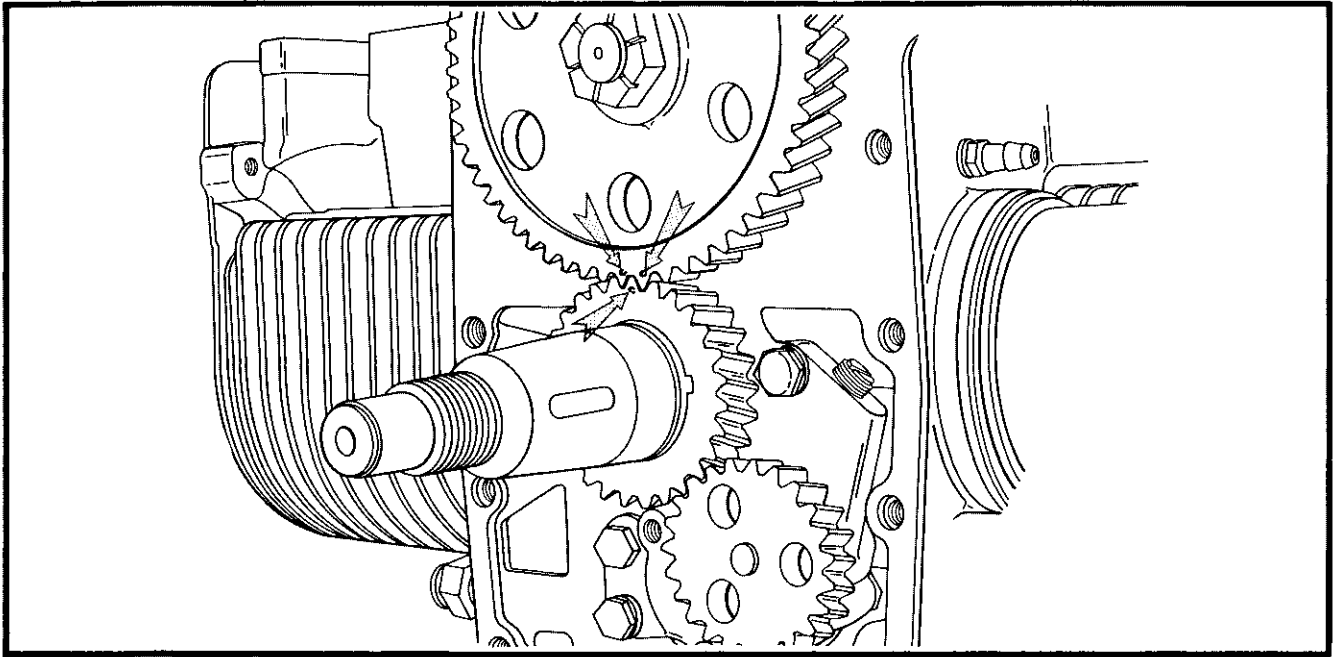

FIGURE 11-3 -- TIMING MARKS ON CRANK AND CAM GEARS (K482, K532)
- C. **Cam Gear:** Turn crank gear until tooth with punch mark is in 12 o'clock position as shown in Figure 11-3. Install woodruff key on camshaft, rotate camshaft so that the two timing marks punched on adjacent teeth of cam gear will straddle single mark on crank gear. After marks are aligned, install cam gear and secure with retaining nut--tighten nut to **480 in. lbs.** torque value. When tightening nut, insert screw driver blade thru holes in cam gear and wedge against one of the capscrews to prevent gear from turning.